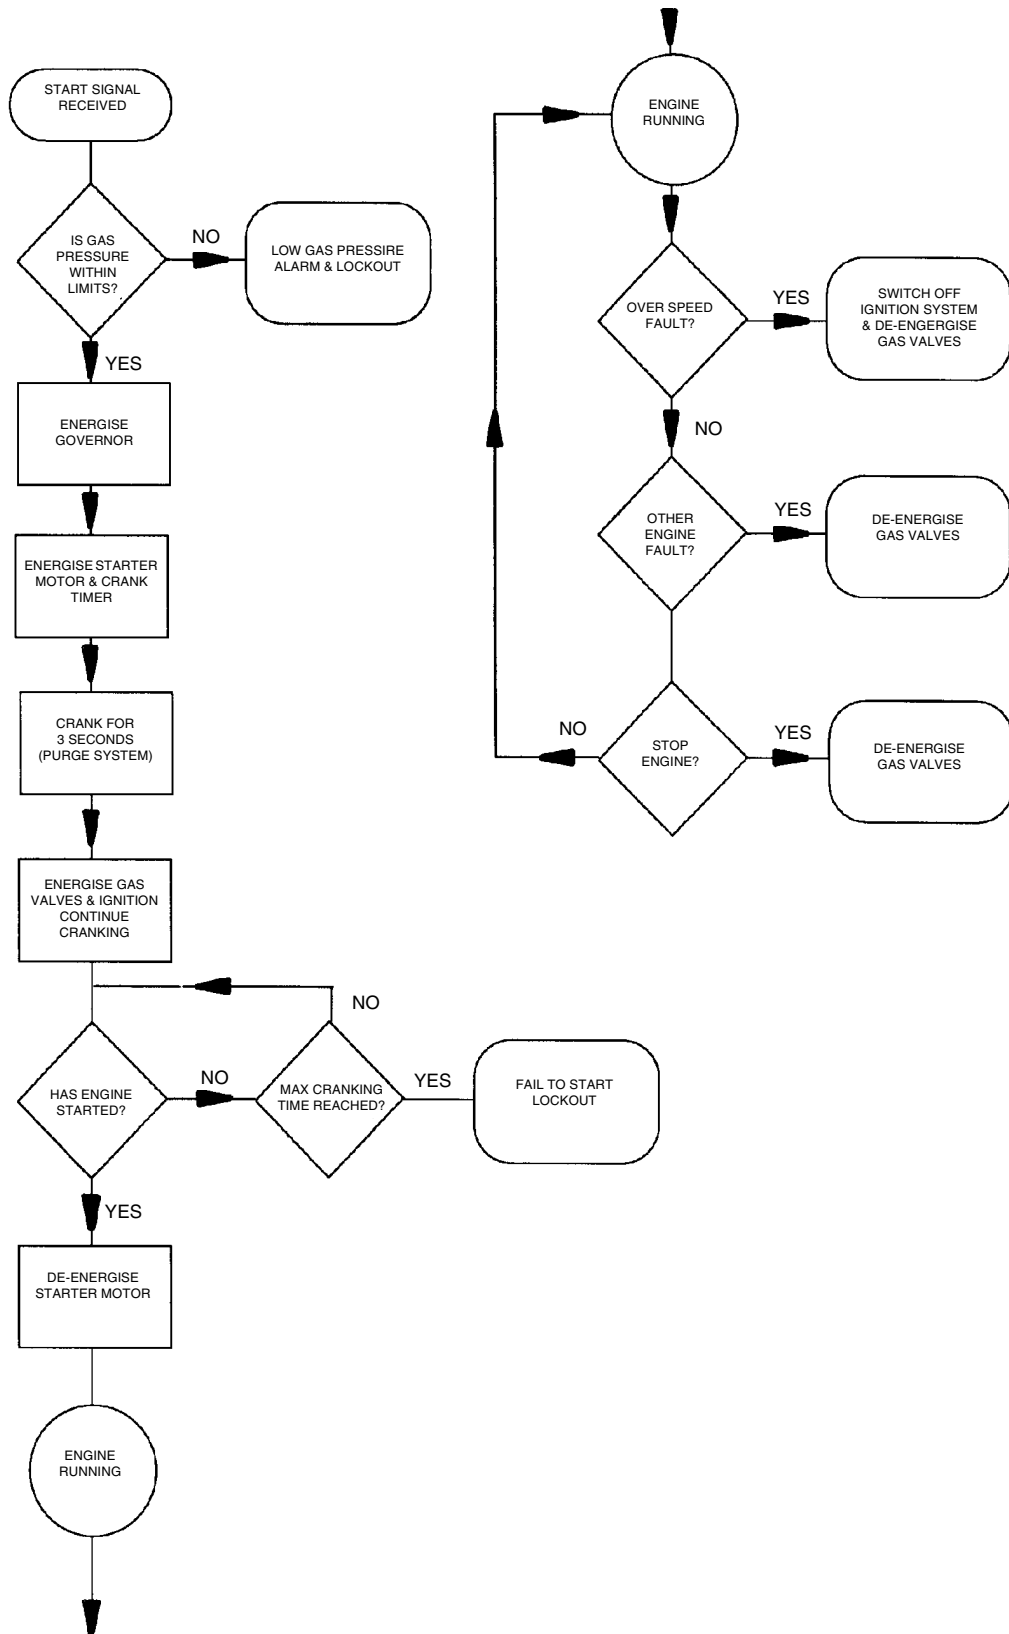

Fig. 14
2. For automatic start and stop sequence see **Fig. 14 on page 27**.